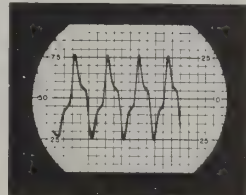

Figure 2.
- (2) With this input signal level, adjust the IDC control on the transmitter to provide a 10-square peak-to-peak recovered signal on the oscilloscope. This is equivalent to  $\pm 5$  kc deviation (preceding the tripler; see figure 2) or  $\pm 15$  kc deviation of the actual carrier.